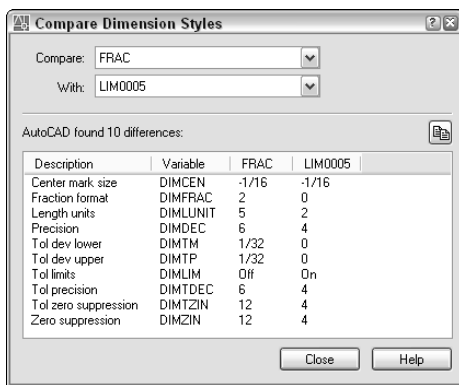

**Figure 15-33:** The Compare Dimension Styles dialog box enables you to compare the properties of two dimension styles.
1. Choose Dimension Style from the Dimension toolbar, and choose Compare. The Compare Dimension Styles dialog box opens, as shown in Figure 15-33.
2. Save the file as ab15-05.dwg in your AutoCAD Bible folder. This is a tension arm for a commercial dryer, as shown in Figure 15-33. ORTHO and OSNAP should be on. Set running object snaps for endpoint, intersection, and center. The Dims layer is current. If the Dimension toolbar is not visible, right-click any toolbar and choose Dimension.